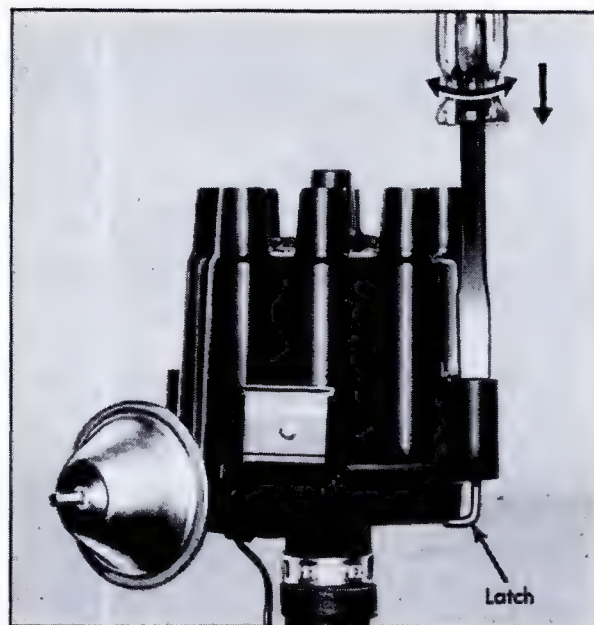

Fig. 6-48 Distributor Cap Removal
1. Remove distributor cap as shown in Fig. 6-48 and position out of way.
#### a. Disassembly (Fig. 6-48)